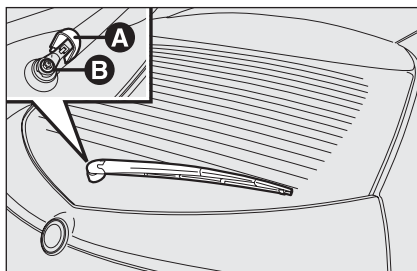

fig. 16
- ☐ raise cover **A**-fig. 16 and remove the arm by loosening the nut **B** that secures it to the revolving pin;